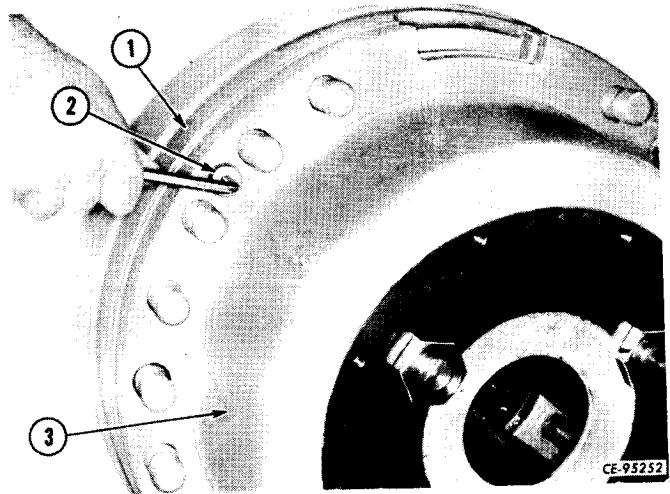

Figure 6-27
Be sure carrier assembly (3, Fig. 6-27) is flush against wheel hub (1). Install the flat head cap screws (2) to secure the two assemblies and tighten cap screws to recommended torque (refer to "SPECIAL TORQUES").